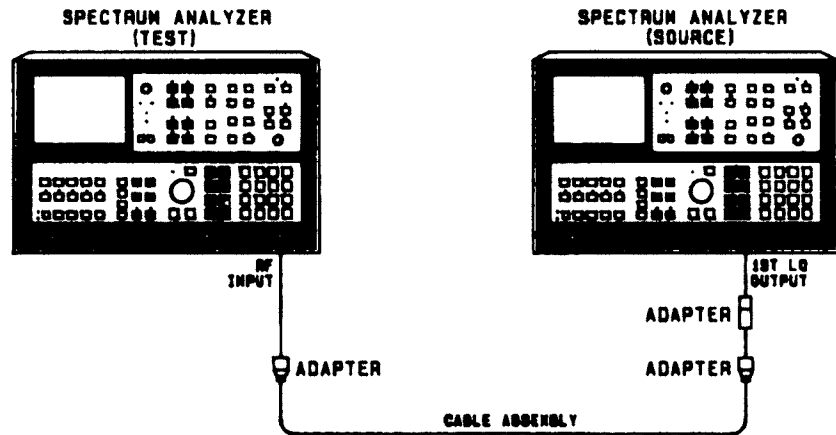

Figure 2-22. Noise Sidebands Test Setup
3. Connect 1ST LO OUTPUT of source analyzer to RF INPUT of analyzer under test as shown in Figure 2-22.